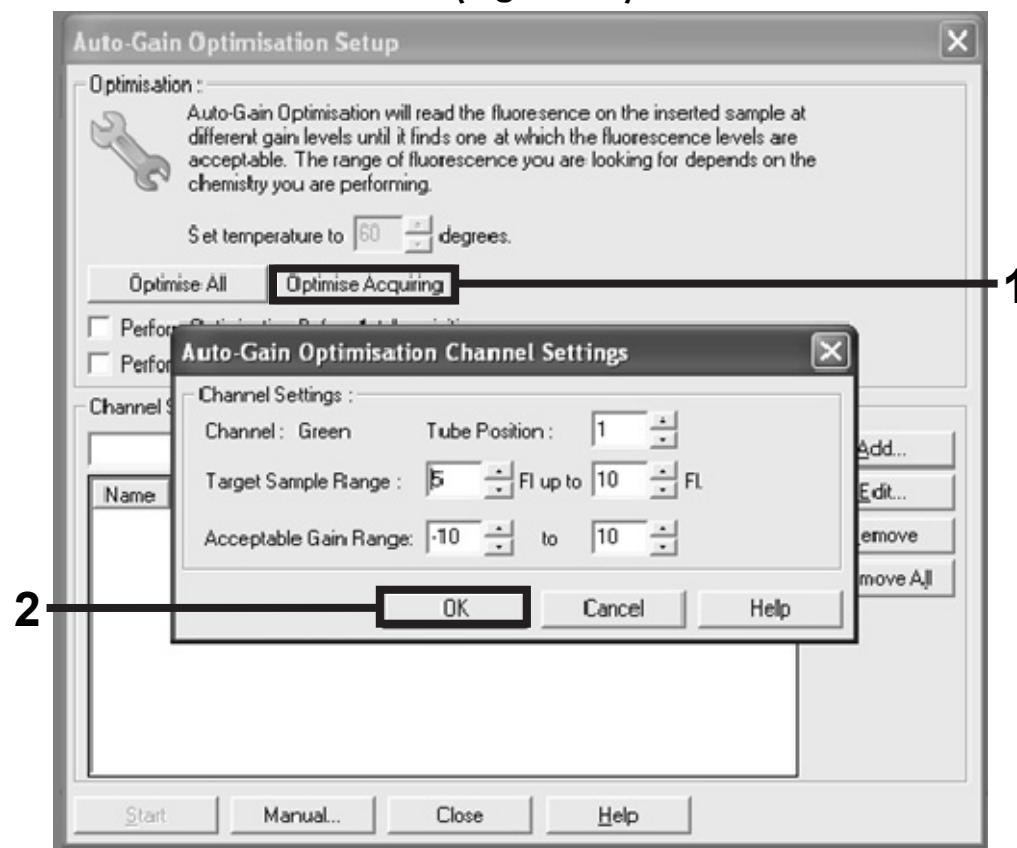

Figure 25. Auto-gain optimization for the green channel.
14. Click the “Optimise Acquiring” button. Channel settings are displayed for each channel. Accept these default values by clicking “OK” for both channels (Figure 25).